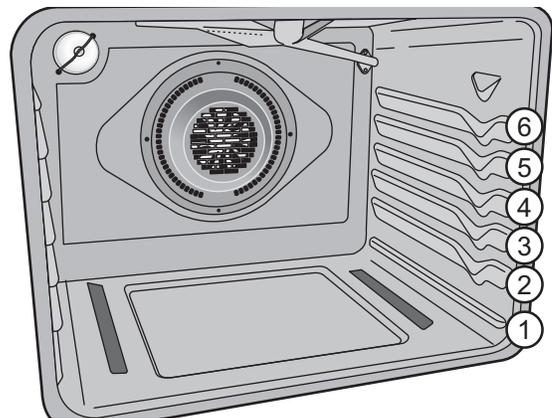

Figure 17: Rack positions for visible bake and hidden bake ovens
- For best results when baking cakes using two oven racks, place racks in positions 3 and 5 (See Figure 17).